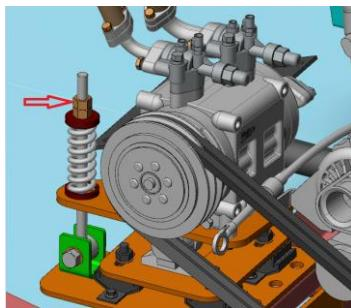
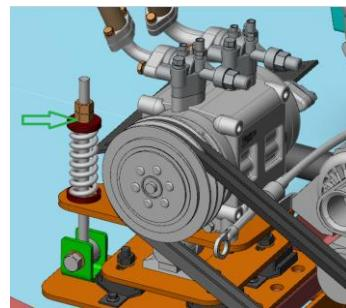
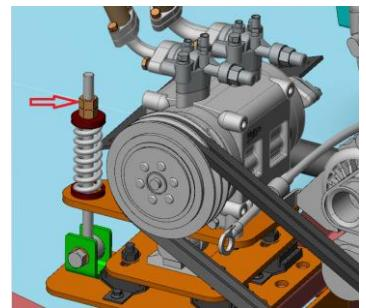

Figure 4
Figure 5
Figure 6
- 3) If the tension is outside the standard, loosen nut (figure 4) counterclockwise, adjust nut (figure 5) clockwise to standard tension, lock nut (figure 6) clockwise.